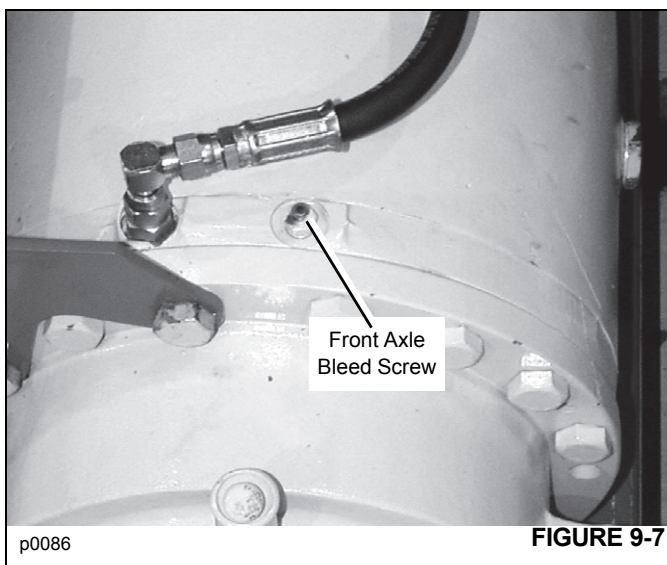

FIGURE 9-7
2. Attach a tube to one of the wheel bleed screws Figure 9-7 ensuring that the free end of the tube is immersed in fluid contained in a suitable container.